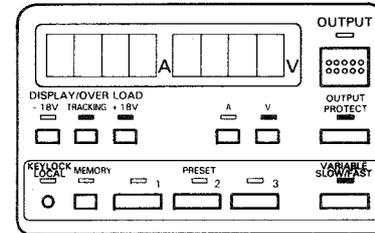

Fig. 9
- 1) Set the LEDs as shown is Figure 9.
Figure 9 indicates the case where positive voltage level is used.